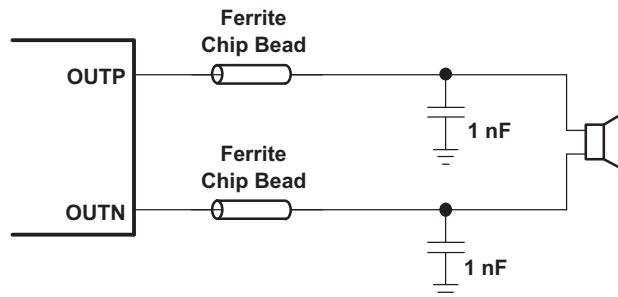

图 38. Typical Ferrite Chip Bead Filter (Chip Bead Example: NFZ2MSM series from Murata)
- **Output filter**—The ferrite EMI filter (图 38) should be placed as close to the output pins as possible for the best EMI performance. The capacitors used in the ferrite should be grounded to power ground.